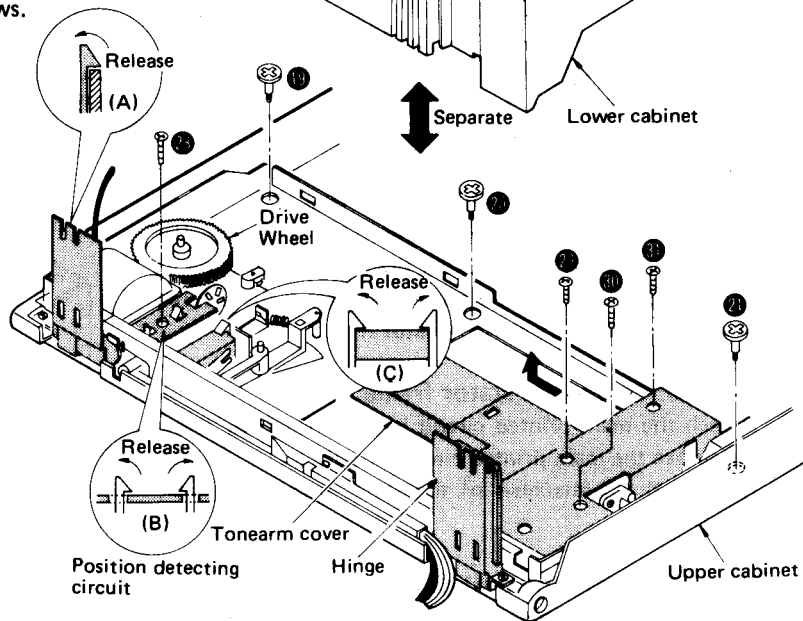

Fig. 7
4. Remove the 5 setscrews of the dust cover. (Fig. 6 : ⑰, ⑱ and Fig. 7 : ⑲ ~ ⑳)
2. Detach the output terminal from lower cabinet. (Fig. 7)
3. Pull out connectors 22 and 23. (Fig. 7)
4. Remove the 4 setscrews of the hinge. (Fig. 7 : 24 ~ 27)
5. The hinge is engaged with the lower cabinet. The lower cabinet can be separated from the upper cabinet by lifting the cabinet while releasing the hinge claws. (See Fig. 7 (A))
2. Remove the setscrews 28. (Fig. 7)
3. Release the claws with the nail and remove the position detecting circuit and the rest switch. (Fig. 7 : (B), (C))
2. Remove the 3 setscrews of the tonearm cover (Fig. 7 : 29 ~ 31) and detach the cover in the direction of the arrow.